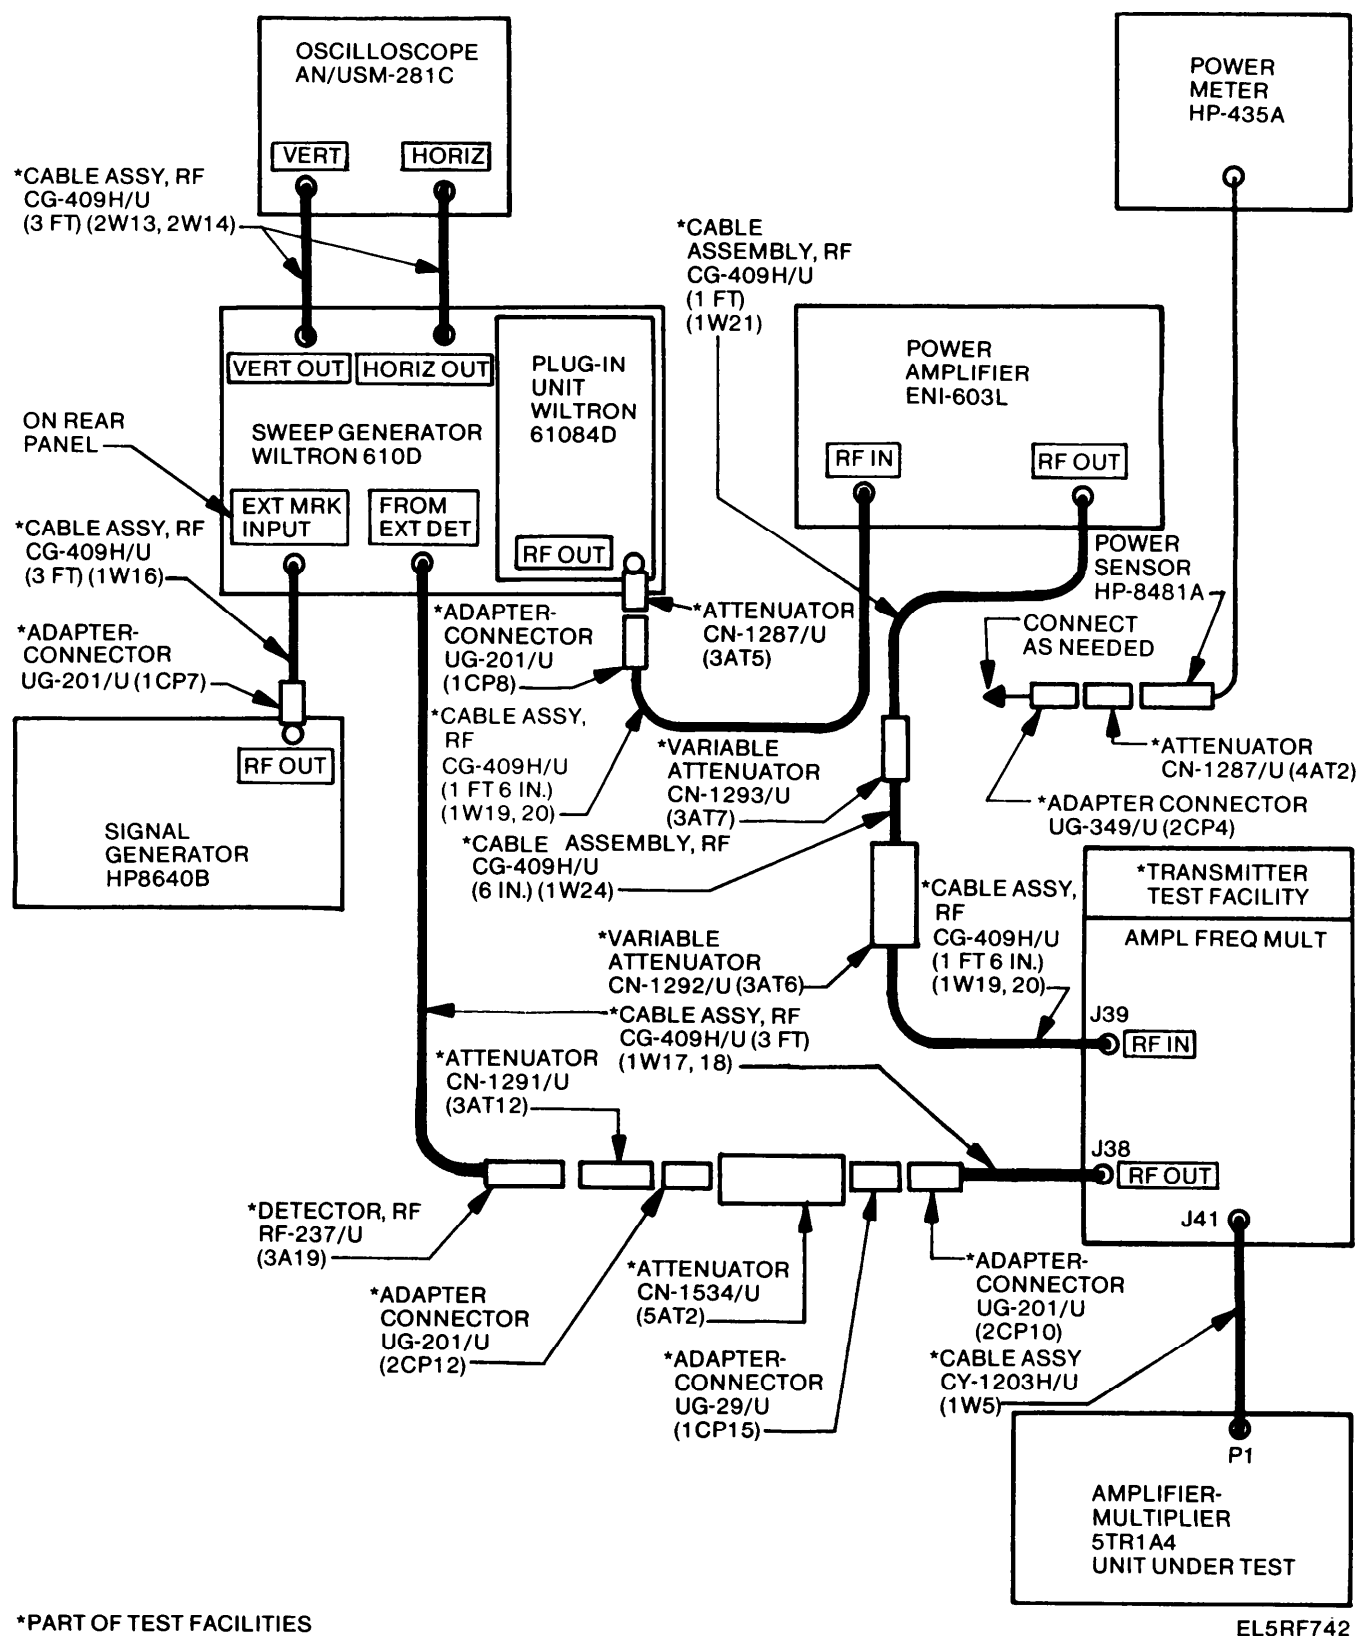

Figure 3-109. Amplifier-Frequency Multiplier 5TR1A4, Power Output Response, Test Setup.
- (c.) Connect the equipment, calibrated as in (1) above, to the unit under test as shown in figure 3-109.